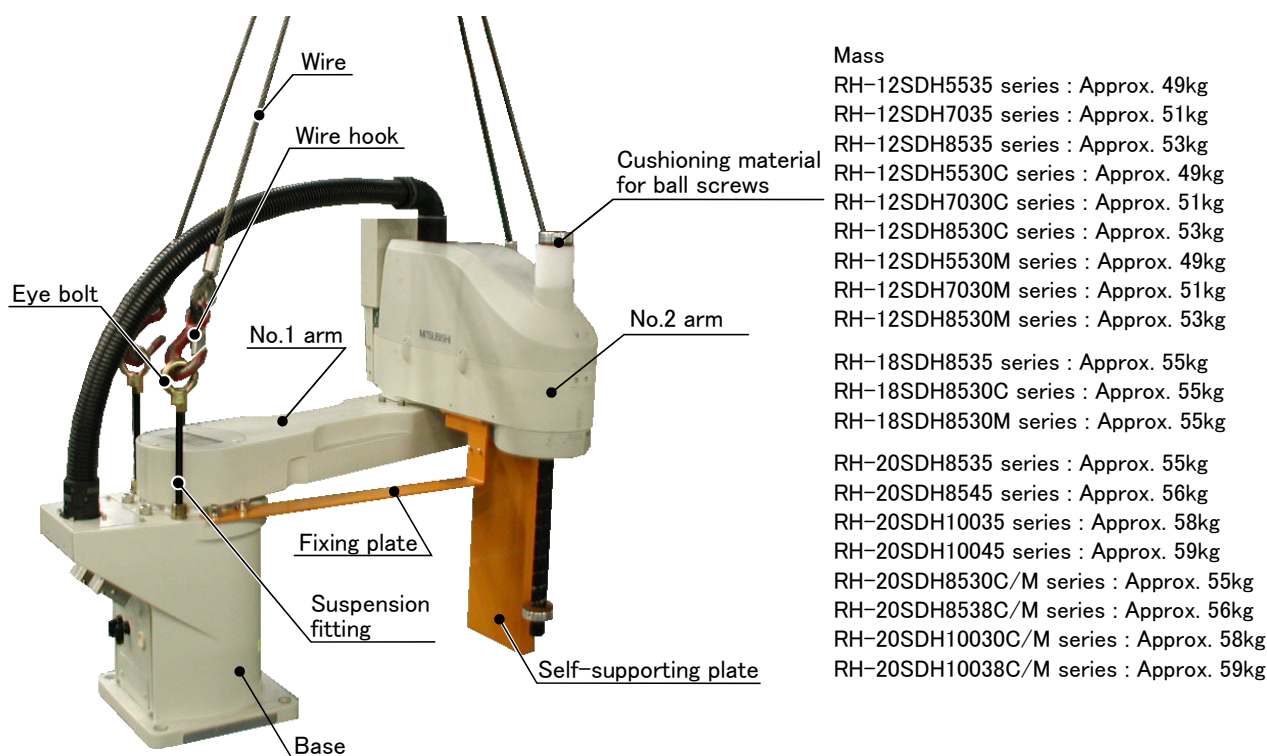

Fig.2-3 : Transportation of robot arm
- 5) After installing the robot (refer to "2.2.4 Installation procedures" on page 10), remove the wires, the wire hooks (the robot will stand by itself as shown in Fig. 2-3), the self-supporting plate, suspension fitting and fixing plate.